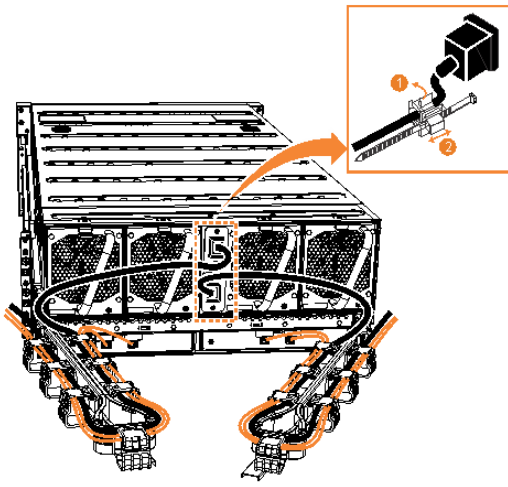

Figure 139. Secure power cables
2. Secure the power cables in the cable retainer at each power connector on the rear of the enclosure, as shown in Figure 139 on page 119. Also, ensure that each cable is installed along one of the cable management arms. The cable management arms also support the SAS cables.